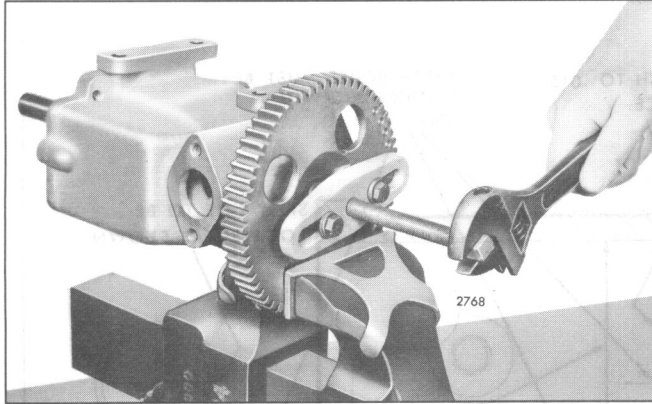

Fig. 11 – Removing Oil Pump Drive-Driven Gear
5. Attach puller J 24420-A to the pump driven gear. Place a couple of washers or a nut between the end of the pump shaft and the puller screw to protect the end of the pump shaft. Then remove the gear by turning the puller screw clockwise (Fig. 11).